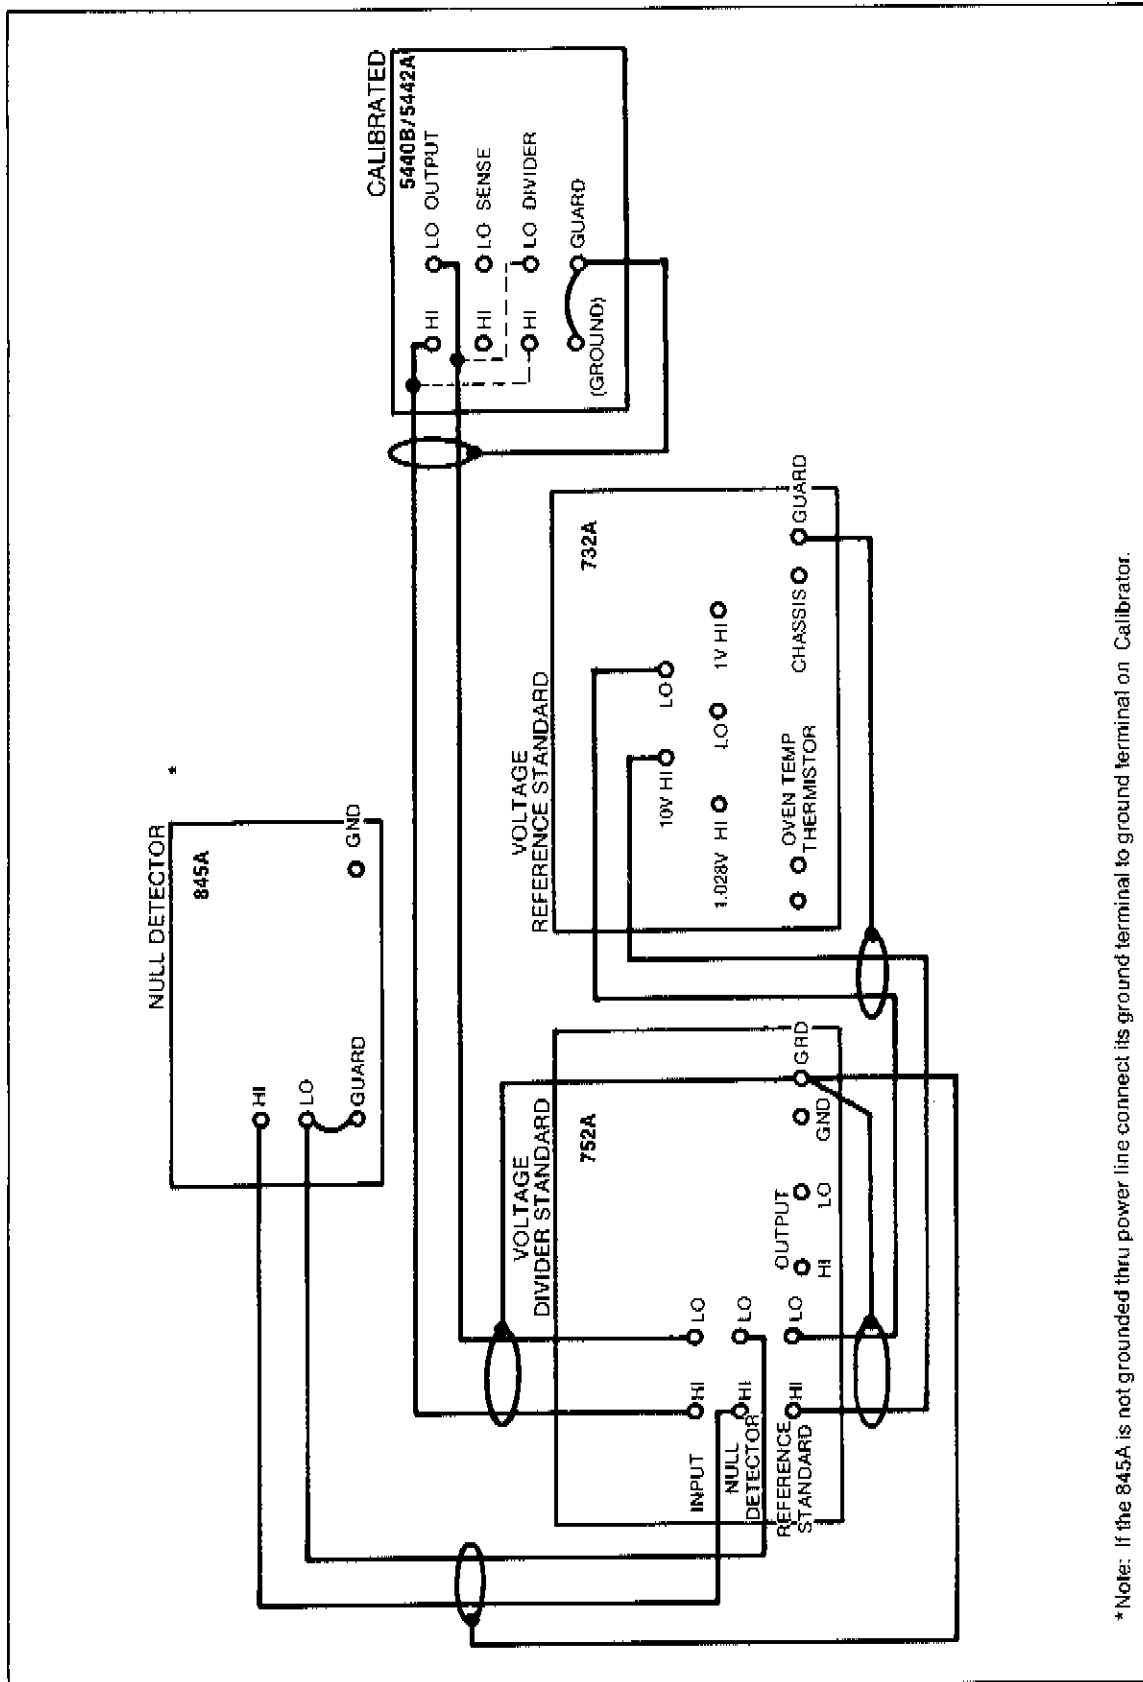

Figure 3-10. External Calibration
2. Connect the test equipment as shown in Figure 3-10.